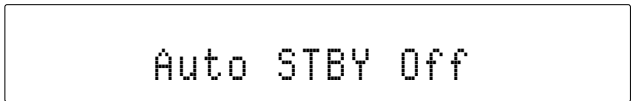

Figure 44
1. Using the MCD350 Remote Control, press and hold in the ⏻ (Power) Push-button for about 5-10 seconds, at which time the Front Panel Display indicates “Auto STBY Off”. Refer to figure 44.